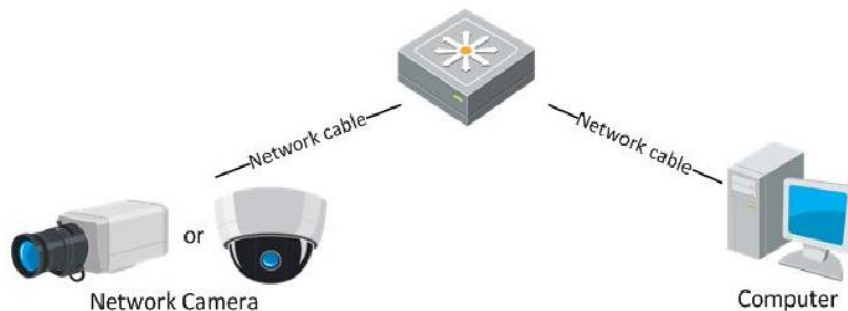

Figure 2-2 Connecting via a Switch or a Router
- Refer to the Figure 2-2 to set network camera over the LAN via a switch or a router.